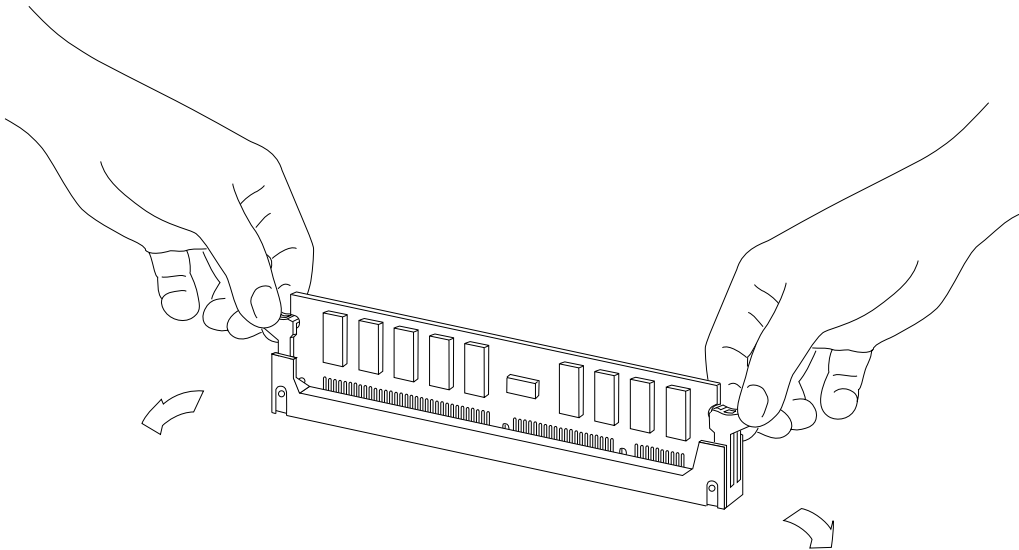

FIGURE 3-11 Ejecting a DIMM
4. Eject the faulty DIMM by pressing down on the ejection levers on both sides of the DIMM connector (FIGURE 3-11).